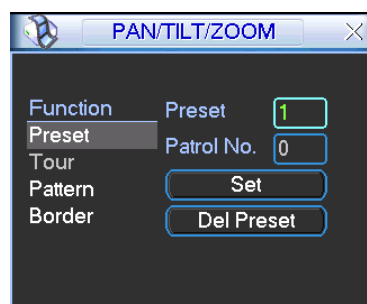
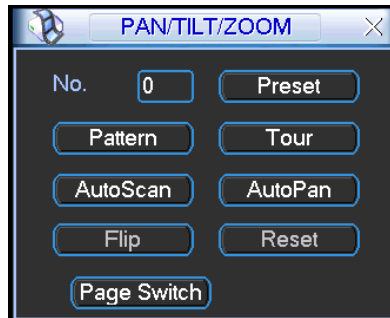

Figure 4-39
Figure 4-40
In Figure 4-36, please click the “set” button. The interface is shown as below. See Figure 4-39.
In Figure 4-36, click page switch button, the interface is shown as in Figure 4-40.
- The following setups are usually operated in the Figure 4-36, Figure 4-39 and Figure 4-40.
In Figure 4-39, click preset button and input preset number. The interface is shown as in Figure 4-41.
In Figure 4-40, please input preset number in the No. blank, and click preset button.
In Figure 4-39, input patrol (tour) number in the No. blank and click patrol button
In Figure 4-39, click pattern button and then click "begin" button. The interface is shown as in Figure 4-43. Then you can go to Figure 4-36 X to modify zoom, focus, and iris. Go back to Figure 4-43 and click "end" button. You can memorize all these operations as pattern 1.
In Figure 4-39, input mode value in the No. blank, and click pattern button.
In Figure 4-40, click “Auto Scan” button, the system begins auto scan. Correspondingly, the auto scan button becomes Stop button. Click stop button to terminate scan operation.
In Figure 4-40, click page switch button, you can see an interface is shown as below. See Figure 4-45. Here you can set auxiliary function. The aux value has relation ship with the Aux button of the decoder.